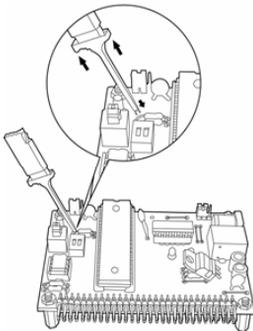

Fig. 2-25
- 3-2. Using the thumb on the back of the end of the clip and the first 2 fingers of the hand push the plastic cover back to reveal 2 metal prongs (Fig.2-25).
- 3-3. Place the metal prongs on a metal connector on the motherboard and release the fingers so that the prongs grip the metal connector (Fig.2-25).